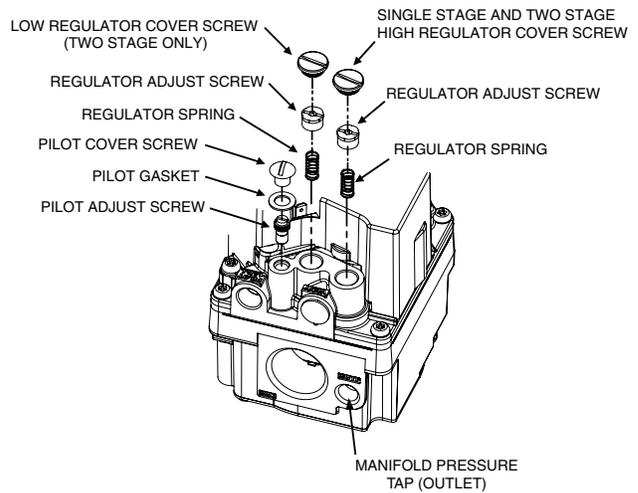

Figure 21. Regulator Spring & Adjustment Screw Removal
1. Remove both regulator cover screws. See Figure 21.